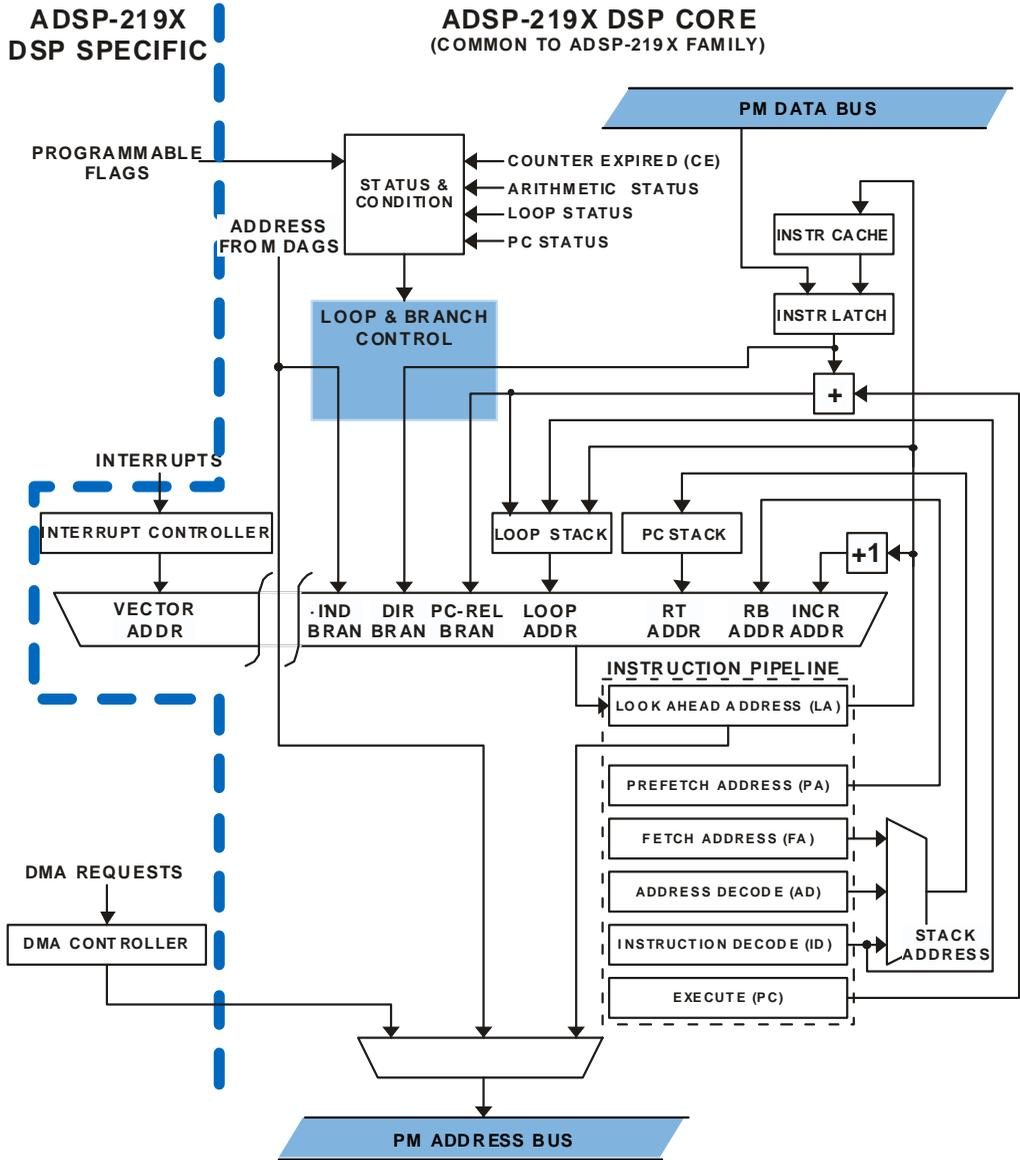

Figure 3-2. Program Sequencer Block Diagram
To accomplish these tasks, the sequencer uses the blocks shown in Figure 3-2 on page 3-5. The sequencer's address multiplexer selects the value of the next fetch address from several possible sources. The fetched address enters the instruction pipeline, ending with the program counter (PC). The pipeline contains the 24-bit addresses of the instructions cur-
Figure 3-2 on page 3-5 uses the following abbreviations: ADDR=address, BRAN=branch, IND=indirect, DIR=direct, RT=return, RB=rollback, INCR=increment, PC-REL=PC relative, PC=program counter.
The diagram in Figure 3-2 on page 3-5 also describes the relationship between the program sequencer in the ADSP-219x DSP core and inputs to that sequencer that differ for various members of the ADSP-219x family DSPs.